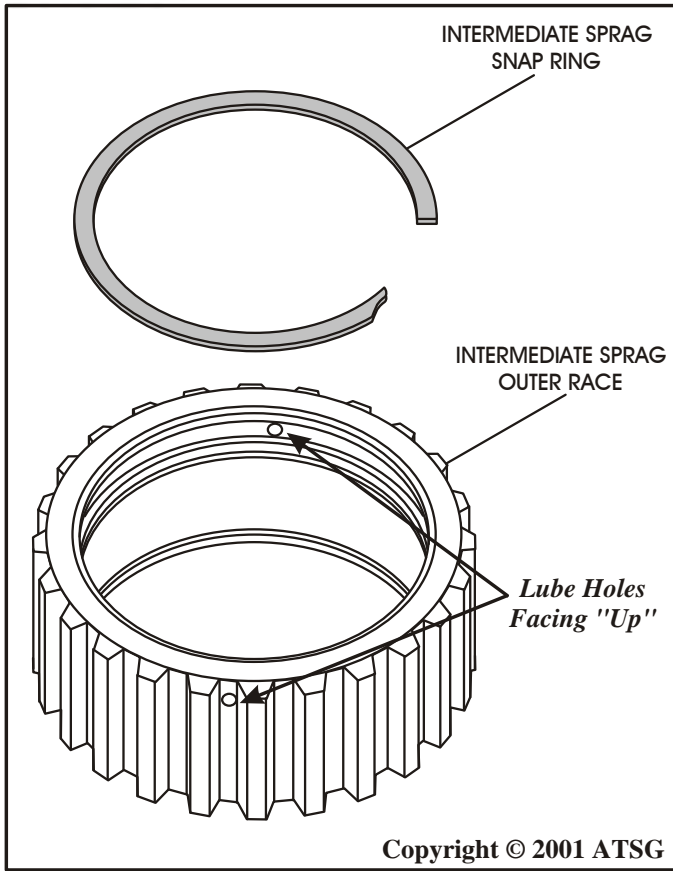

Figure 104
4. Place the sprag outer race on a flat work bench with the *lube holes facing up*, as illustrated in Figure 104.
CAUTION: *The sprag outer race must be placed in this position during assembly as outside splines are cut off-set and will not assemble into the intermediate clutch plates even though the outer race freewheels in the proper direction (See Figure 104).*
5. Install one snap ring into the bottom groove in the sprag outer race, as shown in Figure 104.